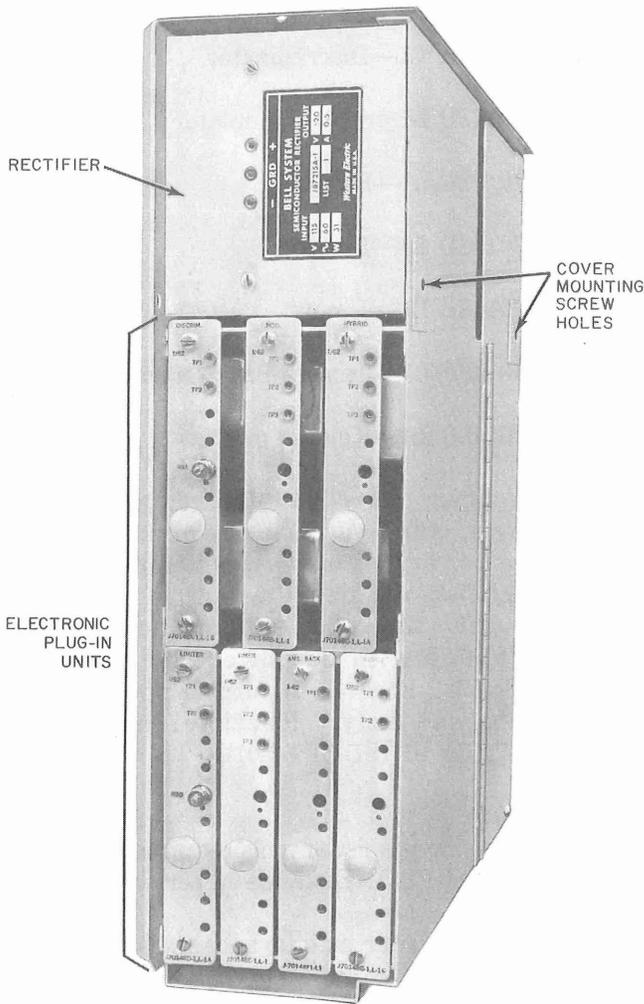

Fig. 1—Data Set 101A—Front View—Cover Removed
1.03 Fig. 1, 2, and 3 are illustrations of the data set and can be used to identify the following major components: